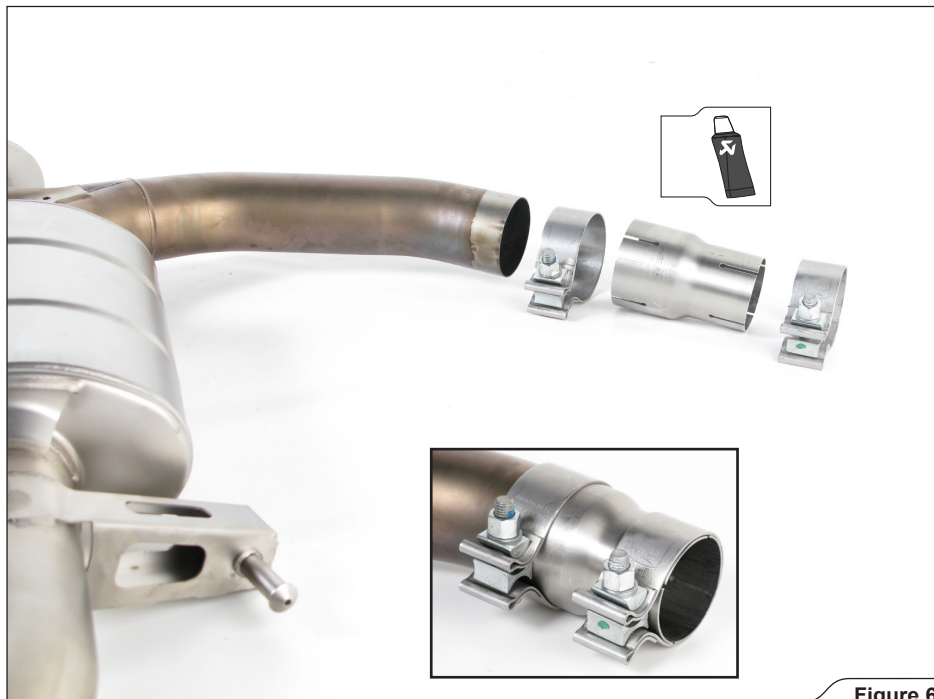

Figure 6
2. **For 1.4TSI model only:** correctly assemble the clamps onto the adapter and slide the adapter all the way onto the muffler's inlet pipe (**Figure 6**).